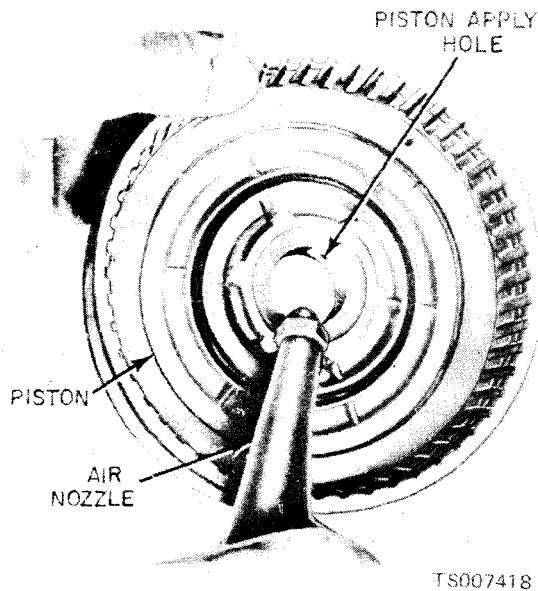

Figure 7-30. Removing Piston.
(5) Remove the clutch release spring from the clutch drum.
(6) The piston can be forced out of the housing with air pressure. Place the nozzle against the clutch apply hole in the front clutch housing, and force the piston out of the housing. See figure 7-30.